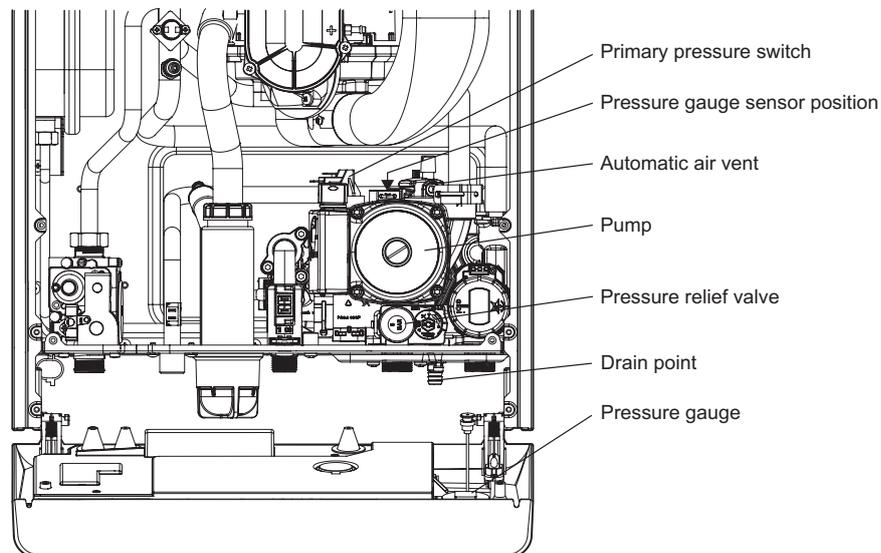

Fig. 34
1. The DHW sensor is positioned in the hot water outlet pipe to the left of the flow switch, see Fig. 34. Unplug the two connections and unclip the sensor from the pipe.
7.22 PRESSURE GAUGE - Fig. 34
7.24 AUTOMATIC AIR VENT - Fig. 34
7.25 PUMP - Fig. 34
2. Connect the plug to the new head. Ensure the pump is set to maximum (3) and re-assemble in reverse order.
7.26 PRIMARY PRESSURE SWITCH - Fig. 34
7.27 PRESSURE RELIEF VALVE - Fig. 34